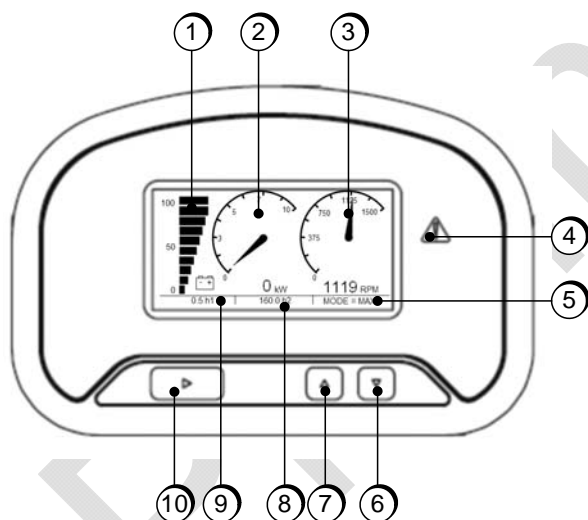

Figure 2: Display
The LED attention triangle (Figure 2 [7]) flashes several times when an error occurs, followed by a short rest period. The number of times the LED flashes and the colour of the LED is an indication of the malfunction.
1. Press the "Select" menu button [marked 10 in Figure 2] for three seconds and the preferences menu will appear.